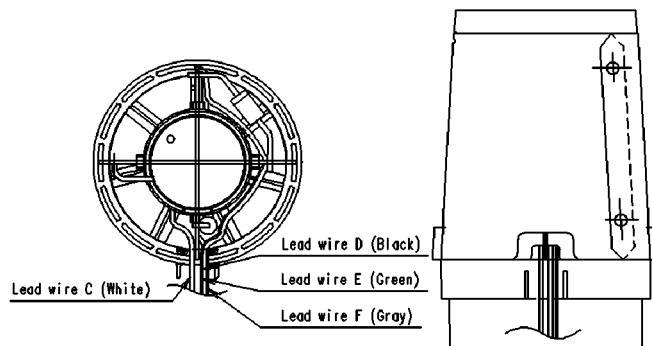

Figure 6
3. Insert the Lead wires between the guide post of Air flow regulator, and align Heater insulator slot and lead wires as shown in Figure 6.